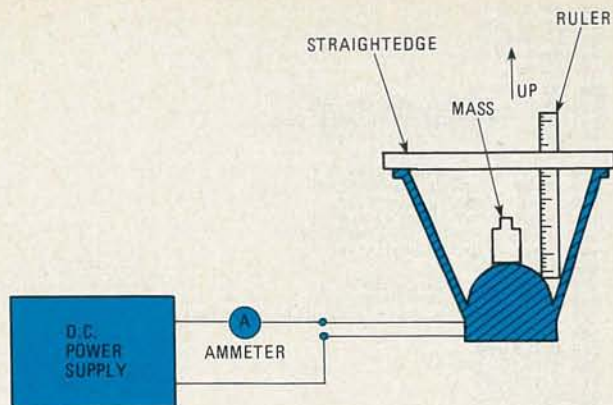

FIG. 4—ARRANGEMENT USED TO MEASURE THE BI PRODUCT AND THE MOUNTING COMPLIANCE.
The BI product is the product of the magnetic induction (B) in the magnet gap, and the length of coil wire, (l) in the gap. B is measured in Teslas. The BI product determines the force exerted on the cone for a given coil current. This product is measured, as shown in Figure 4, by placing the woofer face-up on a